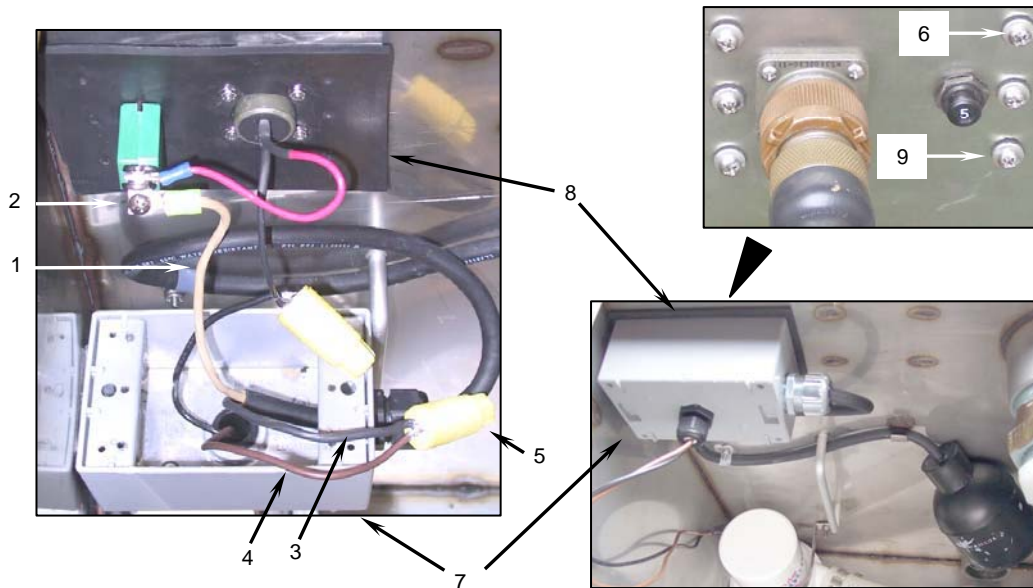

Figure 2. Reconnecting the Grease Separator Float Switch Wires.
- a. Connect white float switch wire (**Figure 2, Item 1**) to the circuit breaker terminal (**Figure 2, Item 2**). Coat the connection with corrosion preventative sealant.
- b. Twist the black float switch wire (**Figure 2, Item 3**) together with the brown pump wire (**Figure 2, Item 4**) and secure with a new watertight wire nut (**Figure 2, Item 5**).
- c. Apply sealing compound to the threads of the six machine screws (**Figure 2, Item 6**).
- d. Position the weatherproof box (**Figure 2, Item 7**) on the gasket (**Figure 2, Item 8**) and the wall of the grease separator and secure with the six sealing washers (**Figure 2, Item 9**) and machine screws (**Figure 2, Item 6**).